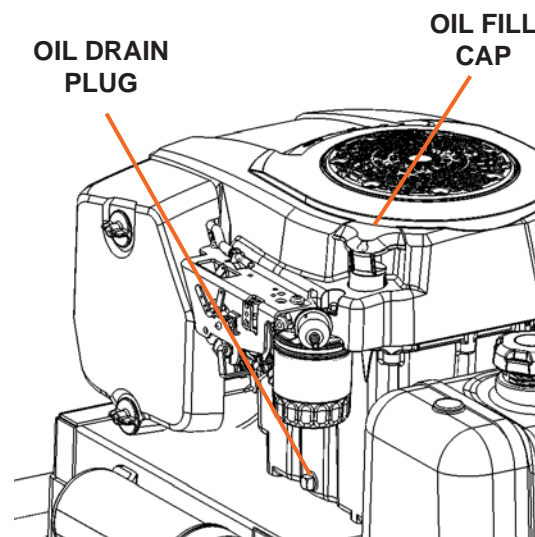

Figure 13
1. Remove the oil fill cap and position a suitable oil drain container under the mower near the oil drain plug on the side of the engine (see Figure 13).